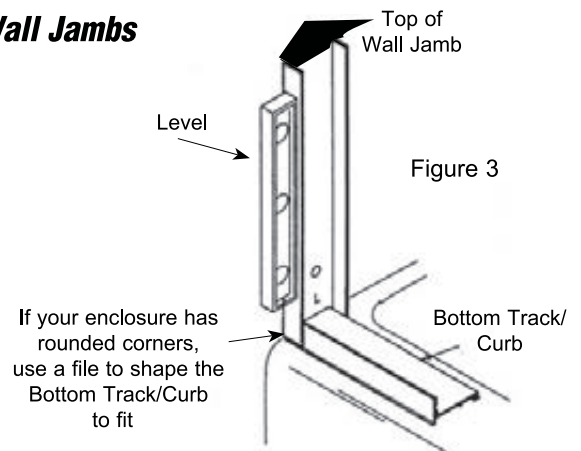

Figure 3
- A. Place one Wall Jamb (#3) against one wall of the enclosure. Be sure the Bottom Track/Curb (#2) rests **INSIDE** of the Wall Jamb. If needed, trim the Bottom Track/Curb further to fit inside the Wall Jamb. Use a level against each Wall Jamb to align vertically. Use a pencil to mark the position of each of the three pre-drilled holes in the Wall Jamb onto the wall of the enclosure or tile. Set the Wall Jamb aside for the moment. (See Figure 3)